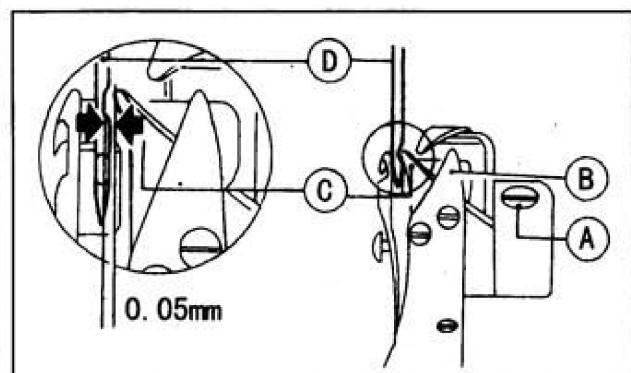

Fig. 20
When adjusting the hook point timing, also notice that the clearance between the bottom of needle notch and Hook Point (C) should be approx. 0.05mm (See Fig.20)